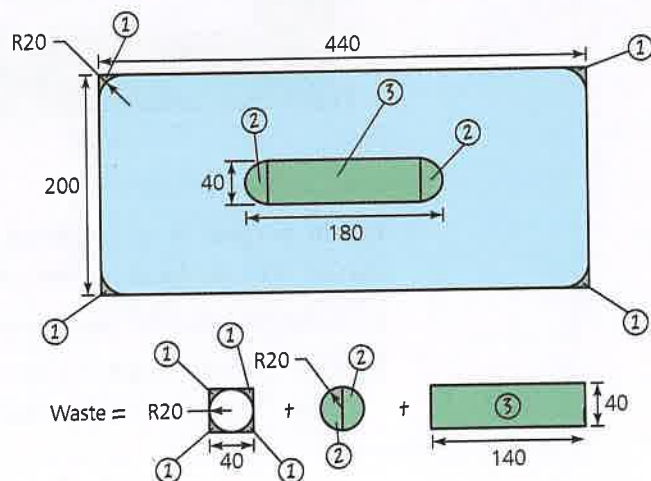

Figure 3.25 Edit of drawing
Step 3: As shown in Figure 3.25, the waste material can be simplified to reduce the number of calculations necessary. The four corners will make one square containing a circle and the two semi-circles will make a circle.